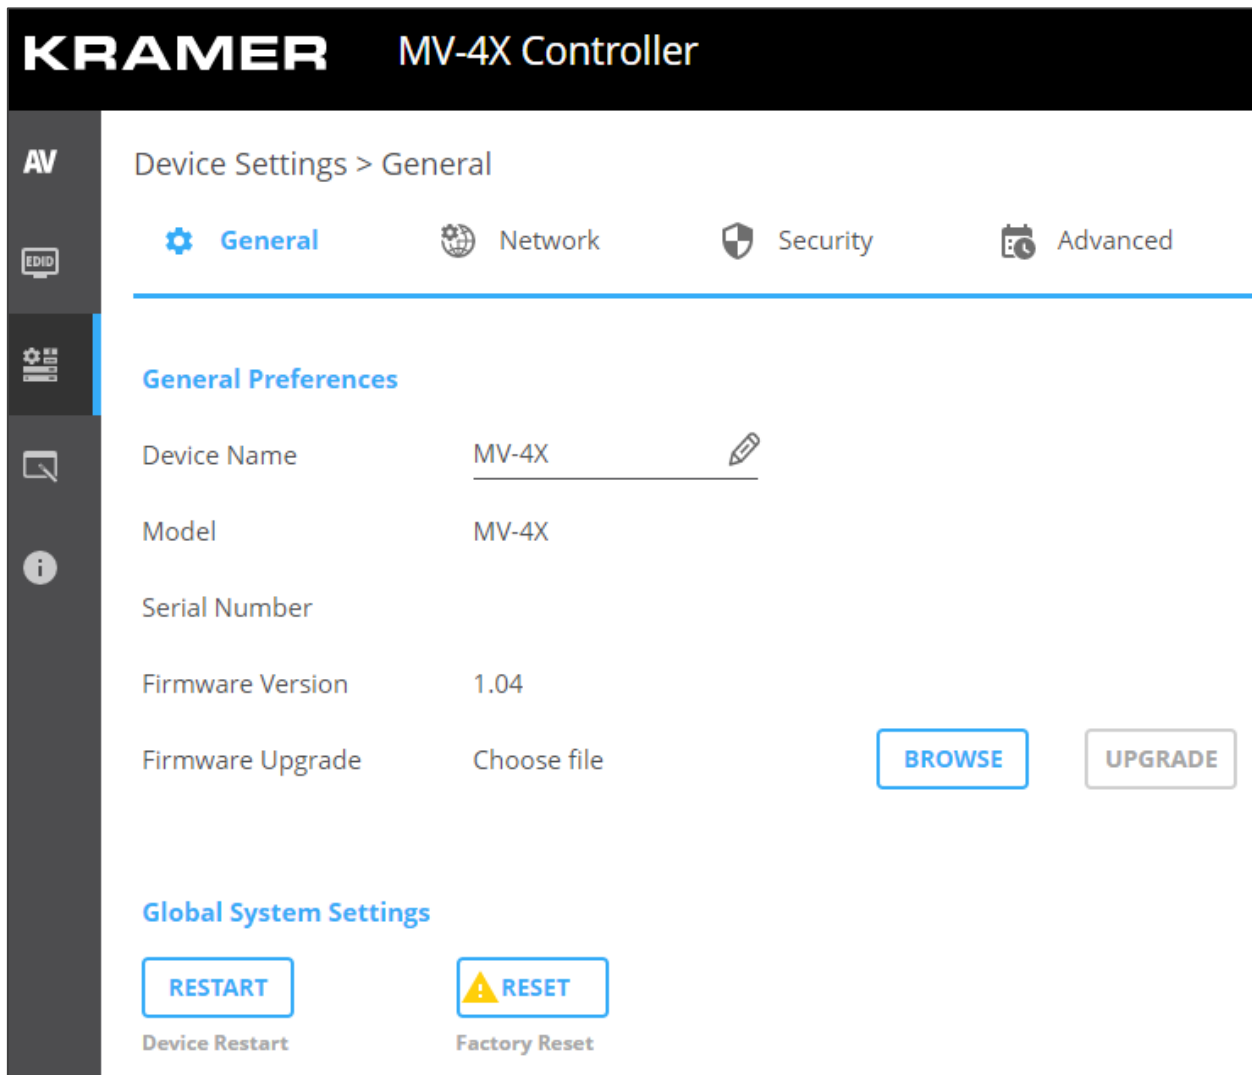

Figure 31: MV-4X Device Settings – General
The Device General Settings page appears (Figure 31).
1. In the Navigation pane, Select **Device Settings**. The General tab in the Device Settings page appears (see Figure 31).
1. In the Navigation pane, click **Device Settings**. The General tab in the Device Settings page appears (see Figure 31).